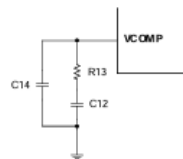

Figure 15: COMP External Compensation
The COMP external compensation sets one pole F_{P1} and one zero F_{Z1} (see Figure 15). These are determined by Equation (35) and Equation (36):